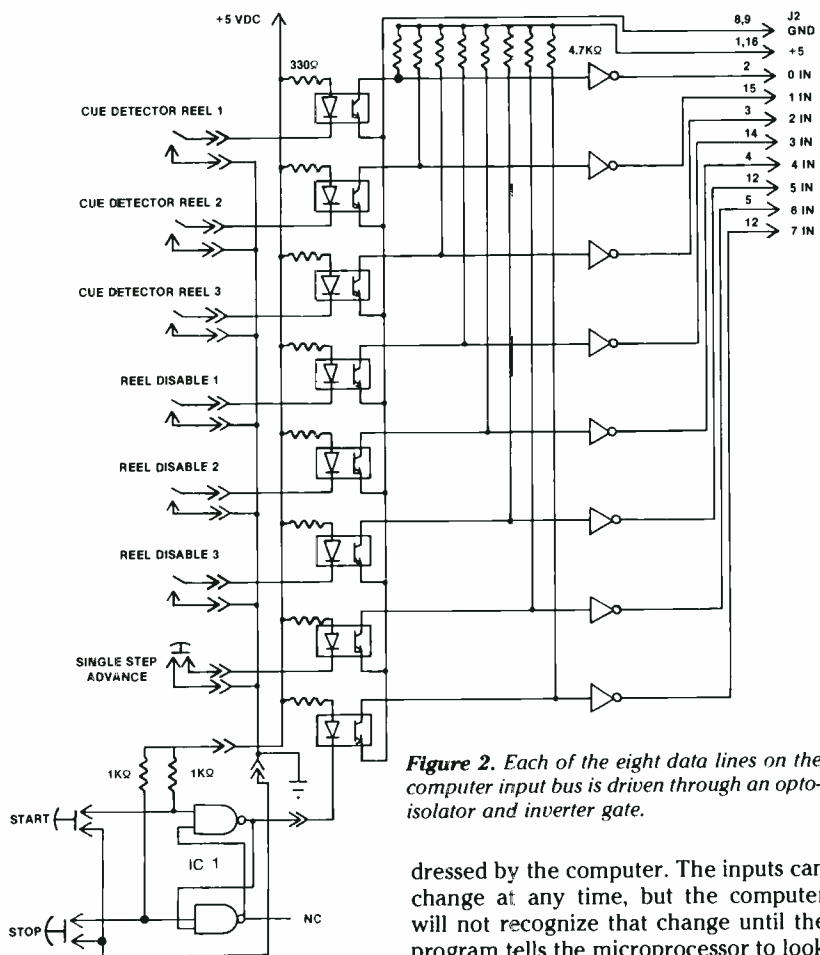

Figure 2. Each of the eight data lines on the computer input bus is driven through an opto-isolator and inverter gate.
**Figure 2.** In addition to linear motion, any effects can be programmed with trajectory for a curved path between keyframes. The path of a given trajectory can be altered with tension.
In operation, the system seeks differences in parameters from one keyframe to the next and smoothly interpolates between them. The interpolation can be either linear or trajectory (for curved paths). As many as 16 keyframes can define a trajectory. Any trajectory path can be modeled with tension (Figure 2).